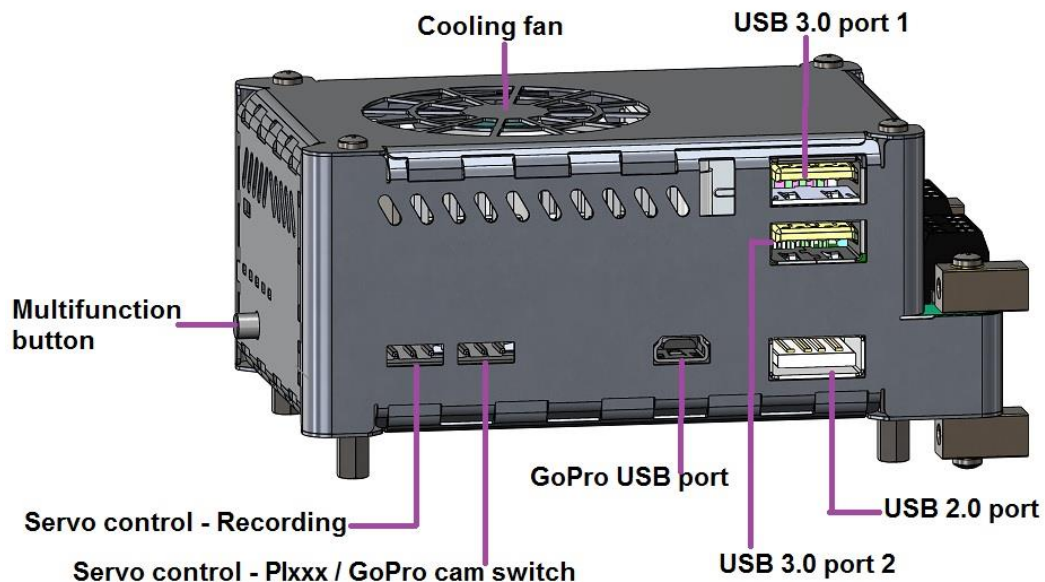

Figure 7: Controls and connections Recording box (1)
Connect the Plxxx to an USB 3.0 port (blue), the GoPro Hero 3+ to the GoPro USB port (see Figure 7: Controls and connections Recording box (1)), and the U-Blox USB GPS to an USB 2.0 port (optionally).
Connect the PIxxx to an USB 3.0 port (blue), the GoPro Hero 3+ to the GoPro USB port (see Figure 7: Controls and connections Recording box (1)), and the U-Blox USB GPS to an USB 2.0 port (optionally).